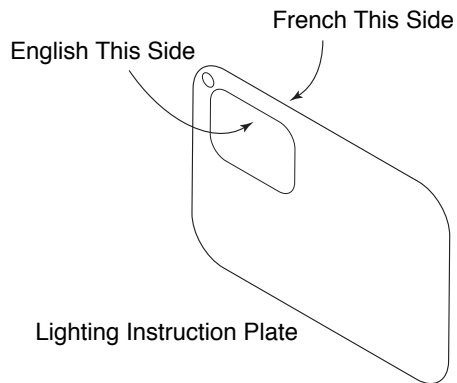

Figure 10 - Applying English and French Conversion Labels over Existing Certification Labels on Lighting Instruction Plate
1. Apply the English and French conversion labels over the top of the existing certification labels (see Figure 10). Existing certification labels are located on the lighting instruction plate inside the gas valve compartment area. With permanent ink, print the previous model number on the label in the space provided (see Figure 11).